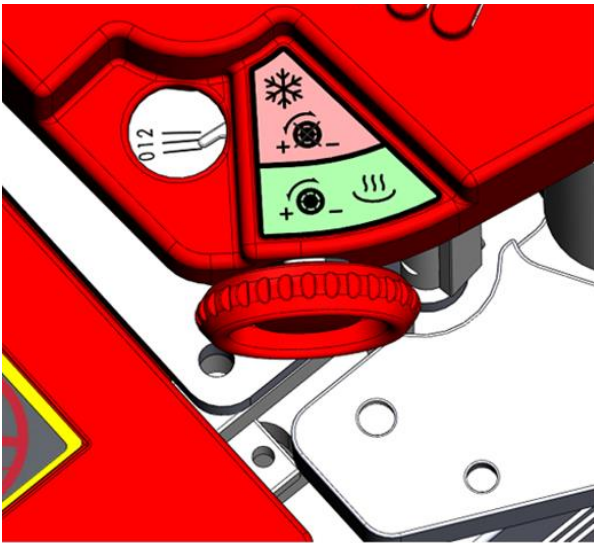

Fig6
- Adjusting glue amount: the adjusting knob (Fig 6) can control the amount of glue applied onto the edge. When machine has heated up and adhesive has become liquid, feed a sample edge to check the amount of glue applied on it. Adjust until the edge is coated evenly